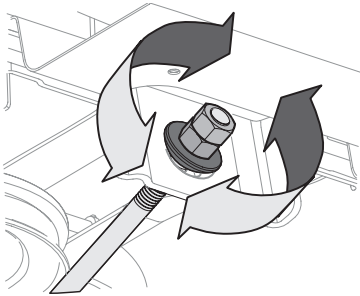

Figure 25
4. To **raise** the front of the deck, loosen the outer nut then tighten (thread inward) the inner nut against the front hanger bracket (Figure 25 on page 26). When proper adjustment is achieved, re-tighten the outer nut to 25-30 ft-lbs (34-41 N·m).
- To **lower** the front of the deck, loosen the outer nut then loosen (thread outward) the inner nut, away from the front hanger bracket (Figure 25). When proper adjustment is achieved, re-tighten the outer nut.